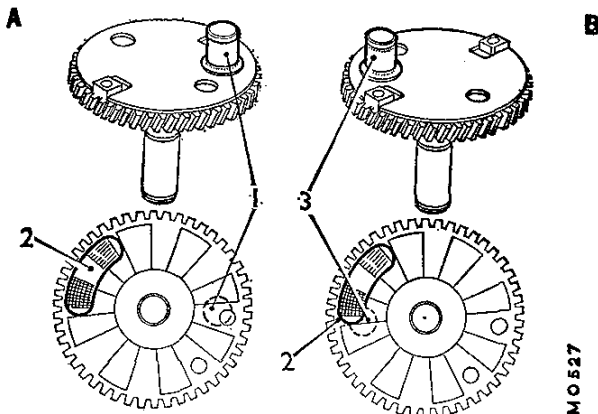

Fig. Nb.10
- IMPORTANT.**—If a new gear wheel is being fitted, ensure that the type obtained has the correct relationship between the crankpin and ramp to give the parking position required for either right- or left-hand-drive vehicles (see Fig. Nb.10).